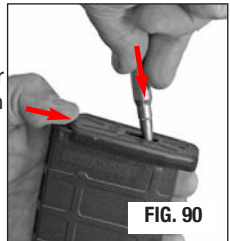

FIG. 90
- Using a pointed object (such as a 308 Cartridge), press the floorplate retainer down by passing the bullet tip through the hole in the floorplate (FIG. 90).